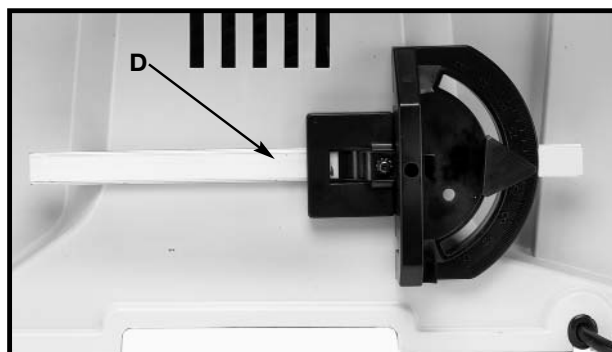

Fig. 9
3. Fig. 9 illustrates the miter gauge (D) inserted into the holder.